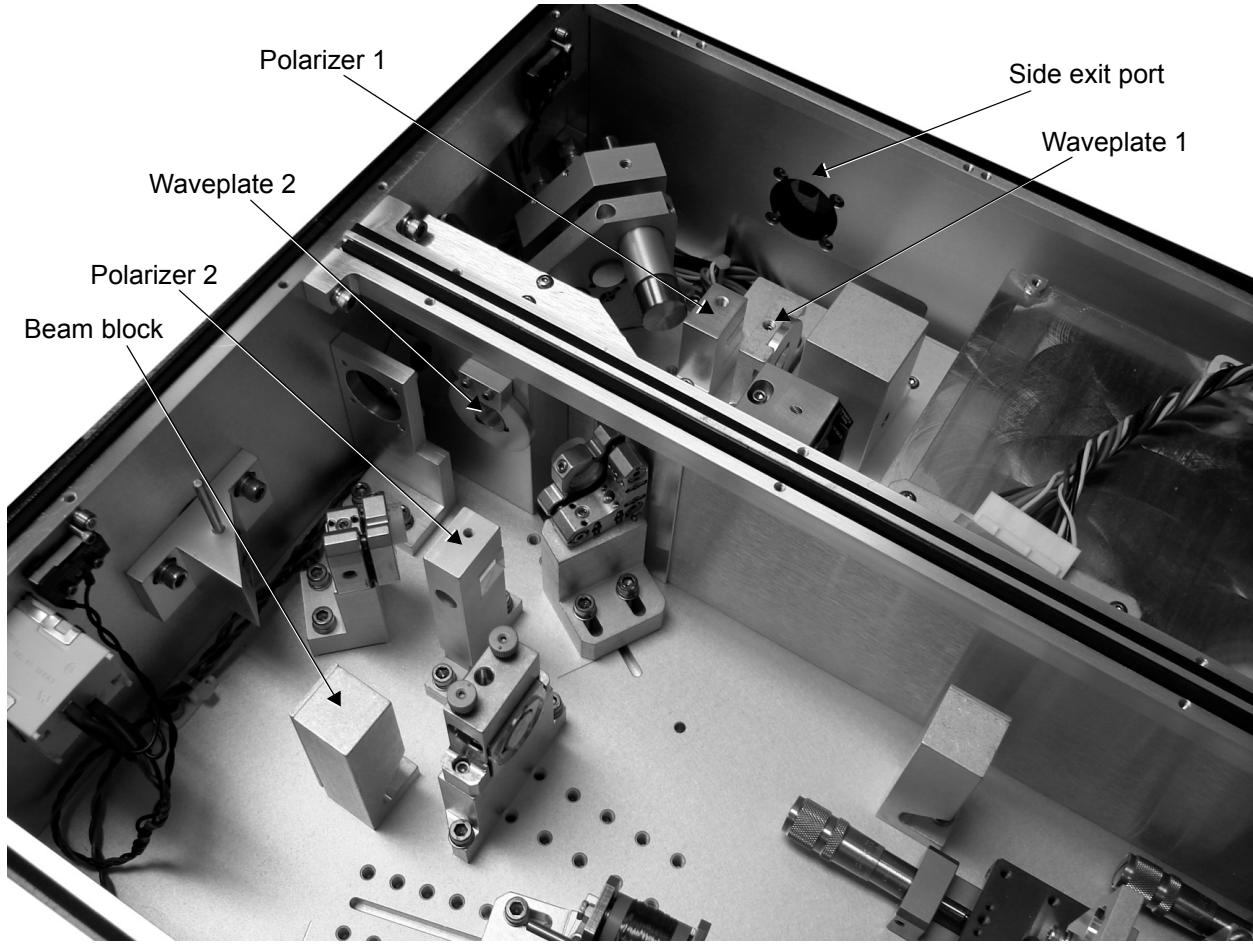

Figure A-1. Micra-18 Optical Components
Figure A-1 shows the additional optical components included in the Micra-18 head. Refer to Figure 8-2 on page 8-6 for the entire layout.
3. Measure and record the power of the green beam at the Micra side exit port (see Figure A-1).
5. Loosen the set screw securing Waveplate 1 (see Figure A-1), and rotate the half-wave plate to maximize the power of the green beam at the side exit port.
3. Loosen the set screw securing Waveplate 1 (see Figure A-1), and rotate the half-wave plate to restore the original power level at the side exit port